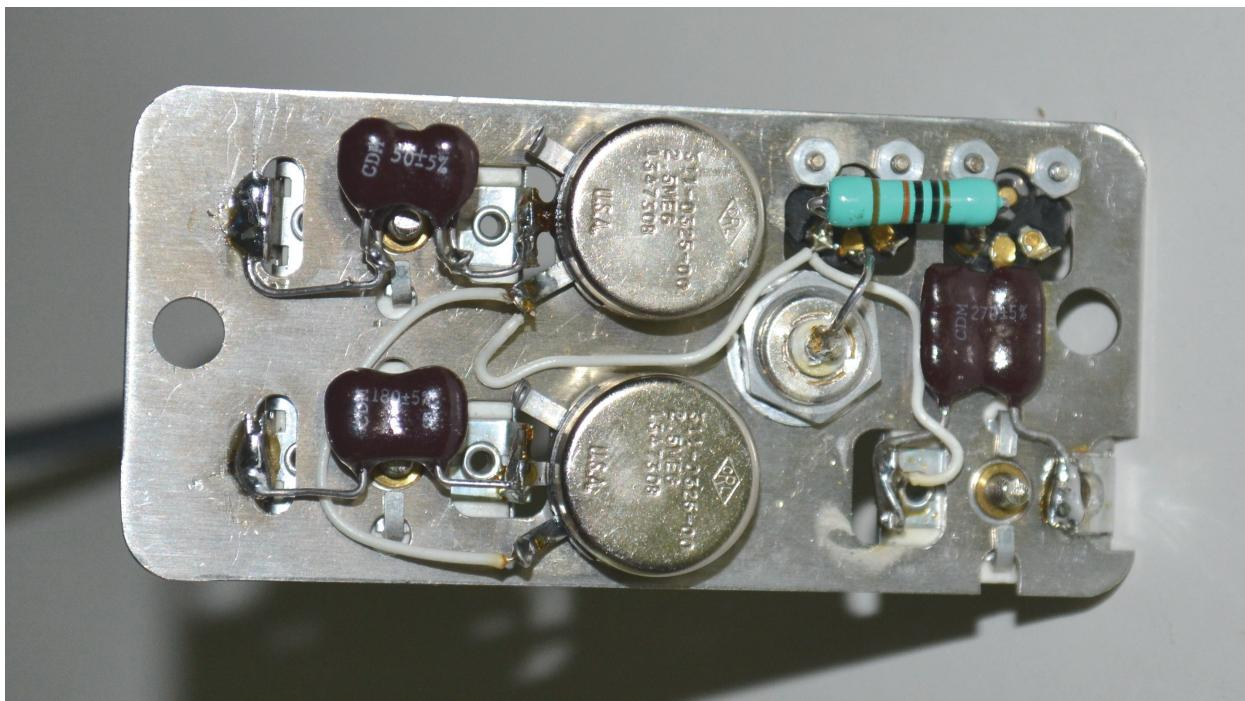

Figure 5. Modified compensation circuit: C1 –upper left, C2 – lower left, C3 – right (added mica capacitors are brown).
5. Similarly, solder a 68-pF capacitor in parallel with C1. Your circuit board should now appear similar to the photograph in Figure 5. Note that we did not have a 68-pF capacitor in stock, so 50- and 33-pF capacitors in parallel were used.